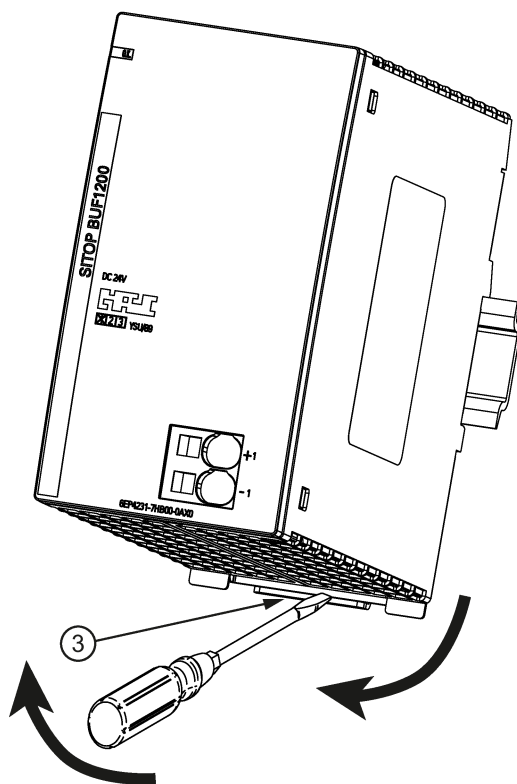

Figure 3-7 Mounting/removal
To remove, pull up the slider ③ using a screwdriver (see Figure 3-7 Mounting/removal (Page 60)) and disengage the device at the bottom edge of the standard mounting rail. Then you can remove the device from the upper edge of the standard mounting rail.